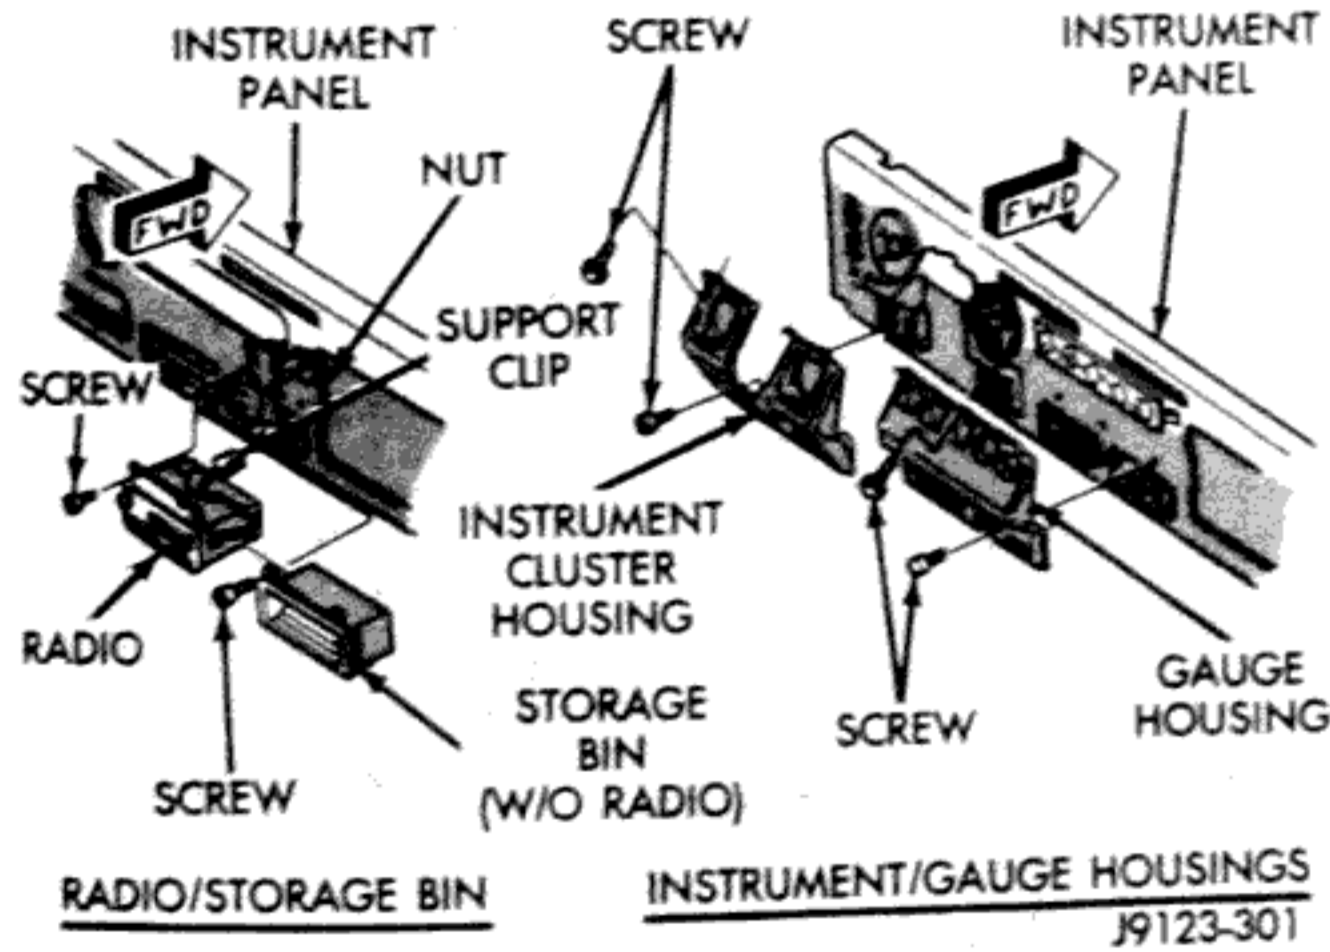

Fig. 1 Instrument Cluster/Gauge Housing and Radio
(1) Remove the instrument cluster and gauge housing attaching screws (Fig. 1, 2 and 3).
(2) Disconnect the switch illumination bulb socket from the instrument cluster housing (Fig. 4). Remove the housings from the instrument panel (Fig. 1).
(1) Position the instrument cluster and gauge housings on the instrument panel (Fig. 1). Connect the switch illumination bulb socket to the instrument cluster housing (Fig. 4).
(2) Install the attaching screws (Fig. 1, 2 and 3). Tighten the screws to 3 N·m (24 in-lbs) torque.
(1) Remove the instrument cluster housing attaching screws (Fig. 1, 2 and 3).
(2) Disconnect the switch illumination bulb from instrument cluster (Fig. 4). Remove the housing from the instrument panel (Fig. 1).